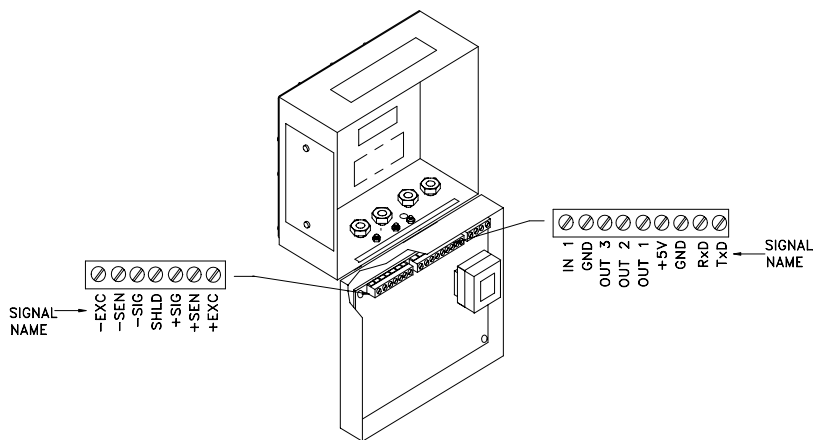

Figure 5
5. Squeeze the top of the front panel to the enclosure and raise it to clear the two top clips. The cover will swing down (Figure 5), hinged by a wire cable at the bottom.